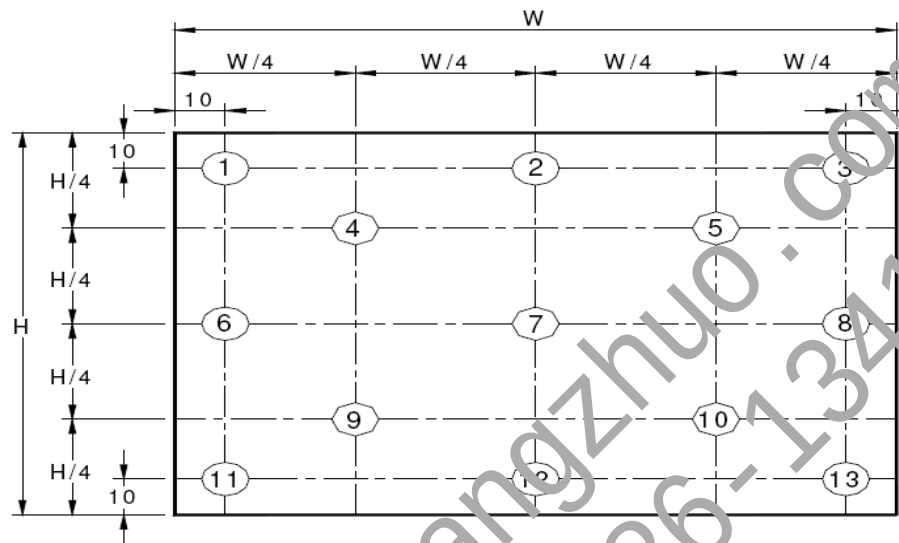

Figure 9. Uniformity Measurement Locations (13 points)
Notes : 1. Viewing angle is the angle at which the contrast ratio is greater than 10. The viewing angles are determined for the horizontal or 3, 9 o'clock direction and the vertical or 6, 12 o'clock direction with respect to the optical axis which is normal to the LCD surface (see Figure 7). 2. Contrast measurements shall be made at viewing angle of $\Theta = 0$ and at the center of the LCD surface. Luminance shall be measured with all pixels in the view field set first to white, then to the dark (black) state . (see Figure 7) Luminance Contrast Ratio (CR) is defined mathematically. CR = Luminance when displaying a white raster Luminance when displaying a black raster 3. Center Luminance of white is defined as luminance values of 5 point average across the LCD surface. Luminance shall be measured with all pixels in the view field set first to white. This measurement shall be taken at the locations shown in Figure 8 for a total of the measurements per display. 4. The White luminance uniformity on LCD surface is then expressed as : $\Delta Y = \text{Minimum Luminance of 5(or 13) points} / \text{Maximum Luminance of 5(or 13) points.}$(see Figure 8 and Figure 9). 5. The color chromaticity coordinates specified in Table 5 shall be calculated from the spectral data measured with all pixels first in red, green, blue and white. Measurements shall be made at the center of the panel. 6. The electro-optical response time measurements shall be made as Figure 10 by switching the “data” input signal ON and OFF. The times needed for the luminance to change from 10% to 90% is T_r, and 90% to 10% is T_f. 7. Cross-Talk of one area of the LCD surface by another shall be measured by comparing the luminance (YA) of a 25mm diameter area, with all display pixels set to a gray level, to the luminance (YB) of that same area when any adjacent area is driven dark. (See Figure 11).
The White luminance uniformity on LCD surface is then expressed as : $\Delta Y5$ = Minimum Luminance of five points / Maximum Luminance of five points (see Figure 8) , $\Delta Y13$ = Minimum Luminance of 13 points /Maximum Luminance of 13 points (see Figure 9).